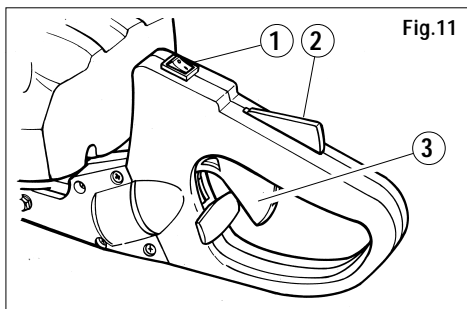

Fig. 11
- 2) Press the stop button (fig. 11 part. 1) to the "ON" position.
- 5) Grip the rear control with the left hand using the palm of the hand to press the throttle lock (fig. 11 part. 2), which allows free movement of the throttle control lever (fig. 11 part. 3).
1) To stop the engine, shut the power switch (fig. 11 part. 1) "OFF".